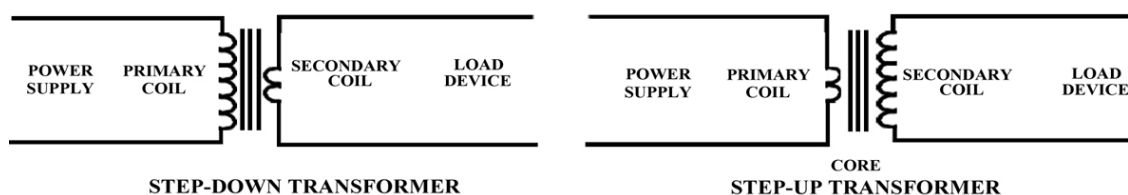

Figure 1-1. Types of transformers.
You learned about various types of transformers in Career Development Course 4A251A, so we will now go into their applications within a medical facility. Transformers require little care and maintenance because of their simple, durable construction. Their high efficiency is responsible for the extensive use of alternating current (AC). Each type of transformer has its advantages and disadvantages, but we want to discuss the transformers that supply power to your building (fig. 1-1). Far more essential to you is the makeup of the transformers used in power plants. I'm sure you have seen the transformers we are going to talk about. They are usually located on a pad outside, mounted on a pole near a building, stored in a hospital basement, or found in rooms throughout your hospital dedicated to the power plant.
When a transformer steps up the voltage, the low-voltage winding is the primary. When a transformer steps down the voltage, the high-voltage winding is the primary (see figure 1-1 for a transformer wiring breakdown). The primary always connects to the source of power, and the secondary always connects to the load. It is common practice to refer to the windings as the primary and secondary, rather than the high-voltage and low-voltage windings.